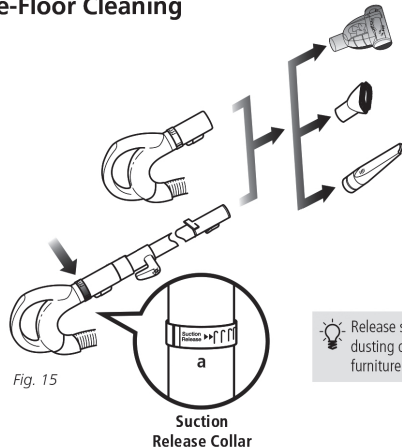

Fig. 15
- 2 Attach desired accessory onto the end of either the extension wand or the handle. (Fig. 15)
- 3 Adjust the amount of suction with the suction release on the handle. Open the valve (a) by rotating the collar 90° counterclockwise for low suction when doing light jobs such as drapes or fine surfaces. Close the valve (a) by rotating the collar clockwise 90° for high suction and when using the hand held pet power brush. (Fig. 15)